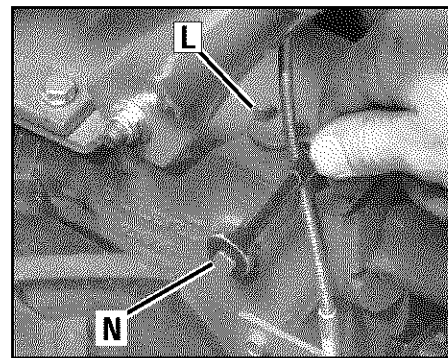
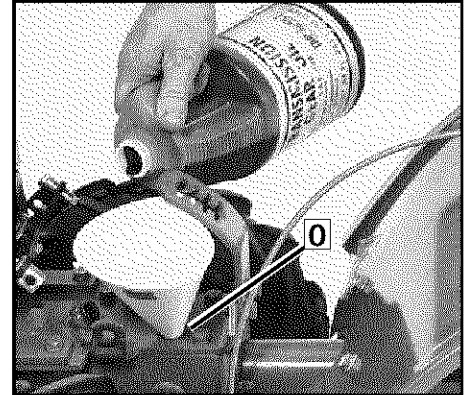

Figure 2-11: Gear oil level check plug (N) and fill hole (L).
Figure 2-12: Adding gear oil.
3. Remove the oil level check plug (N, Figure 2-11) on the left-side of the transmission. (Due to dried paint on the plug threads, it may require some force to remove the plug the first time.) The gear oil level is correct if oil starts to flow out of the hole as the plug is removed. If so, securely reinstall the plug.
- (a) Clean area around oil fill hole (L, Figure 2-11) and unscrew oil fill plug.
- (b) Using a clean funnel, slowly add gear oil (O, Figure 2-12) until it flows from the oil level check hole (N, Figure 2-11). Securely reinstall the oil level check plug (N).